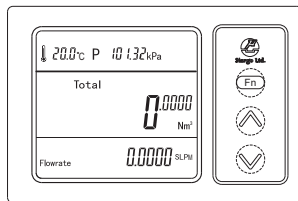

Figure 6-5 User Interface
(1) The user interface (Figure 6-5):